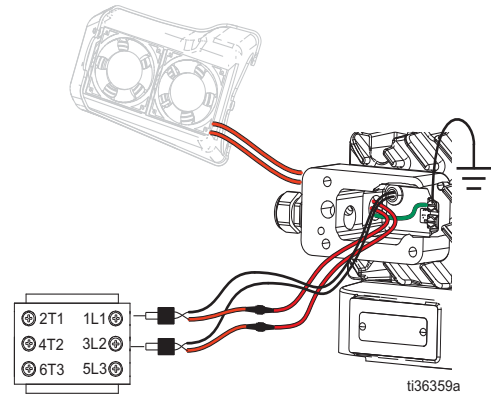

FIG. 15: Attach Grounding Screw
- Use a ferrule to connect each fan wire to one of two wires coming out of the electronics cover (3) and crimp ferrule with a crimp tool. Then attach one wire set into the disconnect block (7) terminals 1L1 and the other wire into location 3L2. See FIG. 15 on page 15.
- Tuck wires back into junction box (88) and reinstall junction box cover (89) with four screws (91) and washers (19).